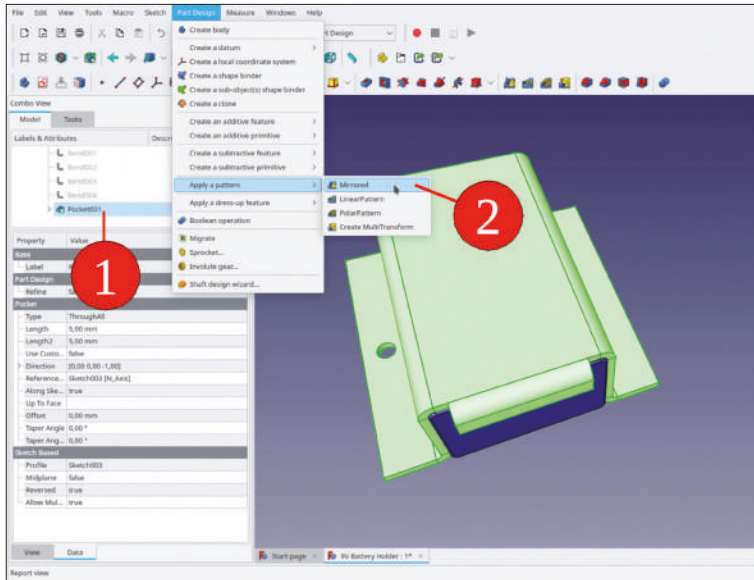

Figure 5-20
24. In the tree view, mark the tip and select 'Part Design | Apply a pattern | Mirrored' from the main menu (Figure 5-20).